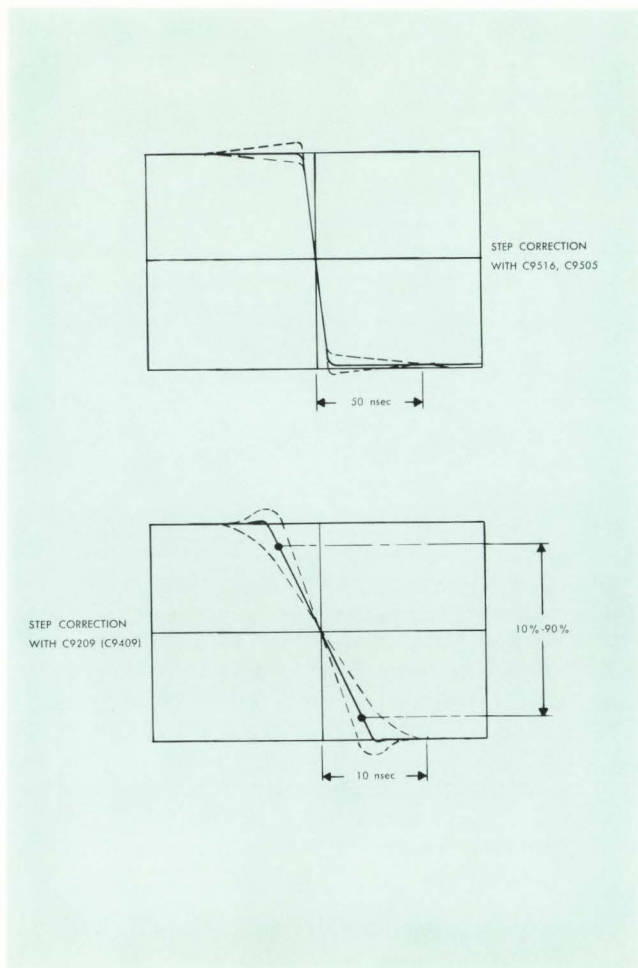

Figure 5-2. Appearance of Waveform When High-Frequency Adjustments Are Correctly Made
5-11. HIGH-FREQUENCY ADJUSTMENTS C9516, C9514, C9505, C9209 (C9409), R9242 (R9442) (C9216) (Figure 5-2)
5. Adjust trimmer capacitors C9516, C9514, C9505, C9209 and R9242 for optimum square wave response. See Figure 5-2.
7. Adjust trimmer capacitor C9409 and R9442 for optimum square wave response. See Figure 5-2.
8. Check fall time of the displayed pulse (10% to 90% points). It should measure less than 8 nanoseconds; if not, readjust C9209 and (C9409) until fall time \leq 8 nanoseconds. The permissible overshoot and ring should be less than 0.15 division out of 5 divisions. The termination bump should be less than 0.05 division. Align to best possible response, then check to see that the displayed waveform is within that specified in Figure 5-2.